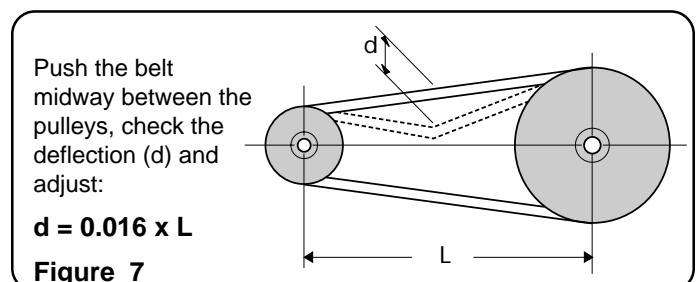

Figure 7
2. Make sure belts have proper tension—belts too tight will cause bearing wear and belts too loose will cause slipping. (See Figure 7).